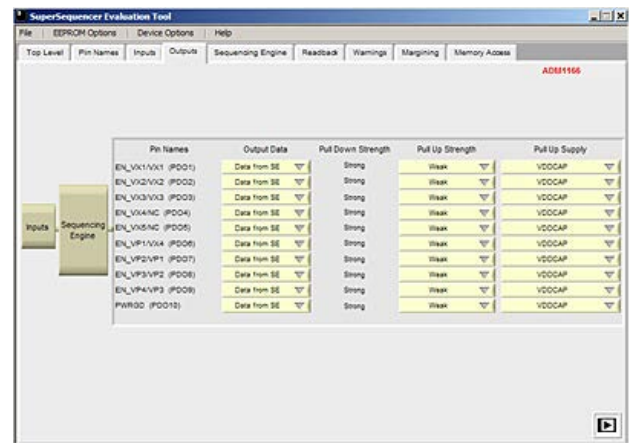
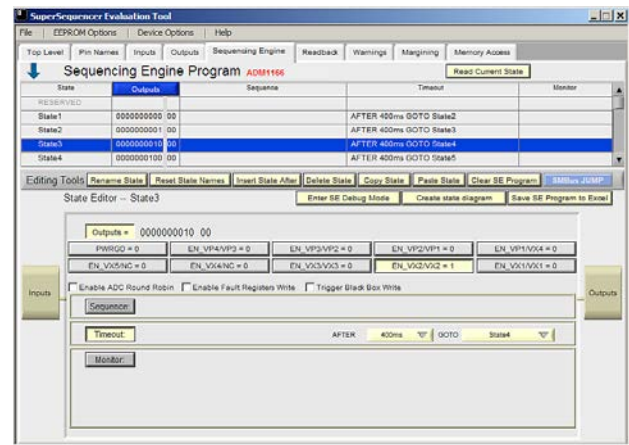

Figure 13. Outputs Tab
Figure 14. Sequencing Engine Tab
5. Examine the details of the device outputs configuration and sequencing engine content in the **Outputs and Sequencing Engine** tabs of the GUI as shown in Figure 13 and Figure 14.